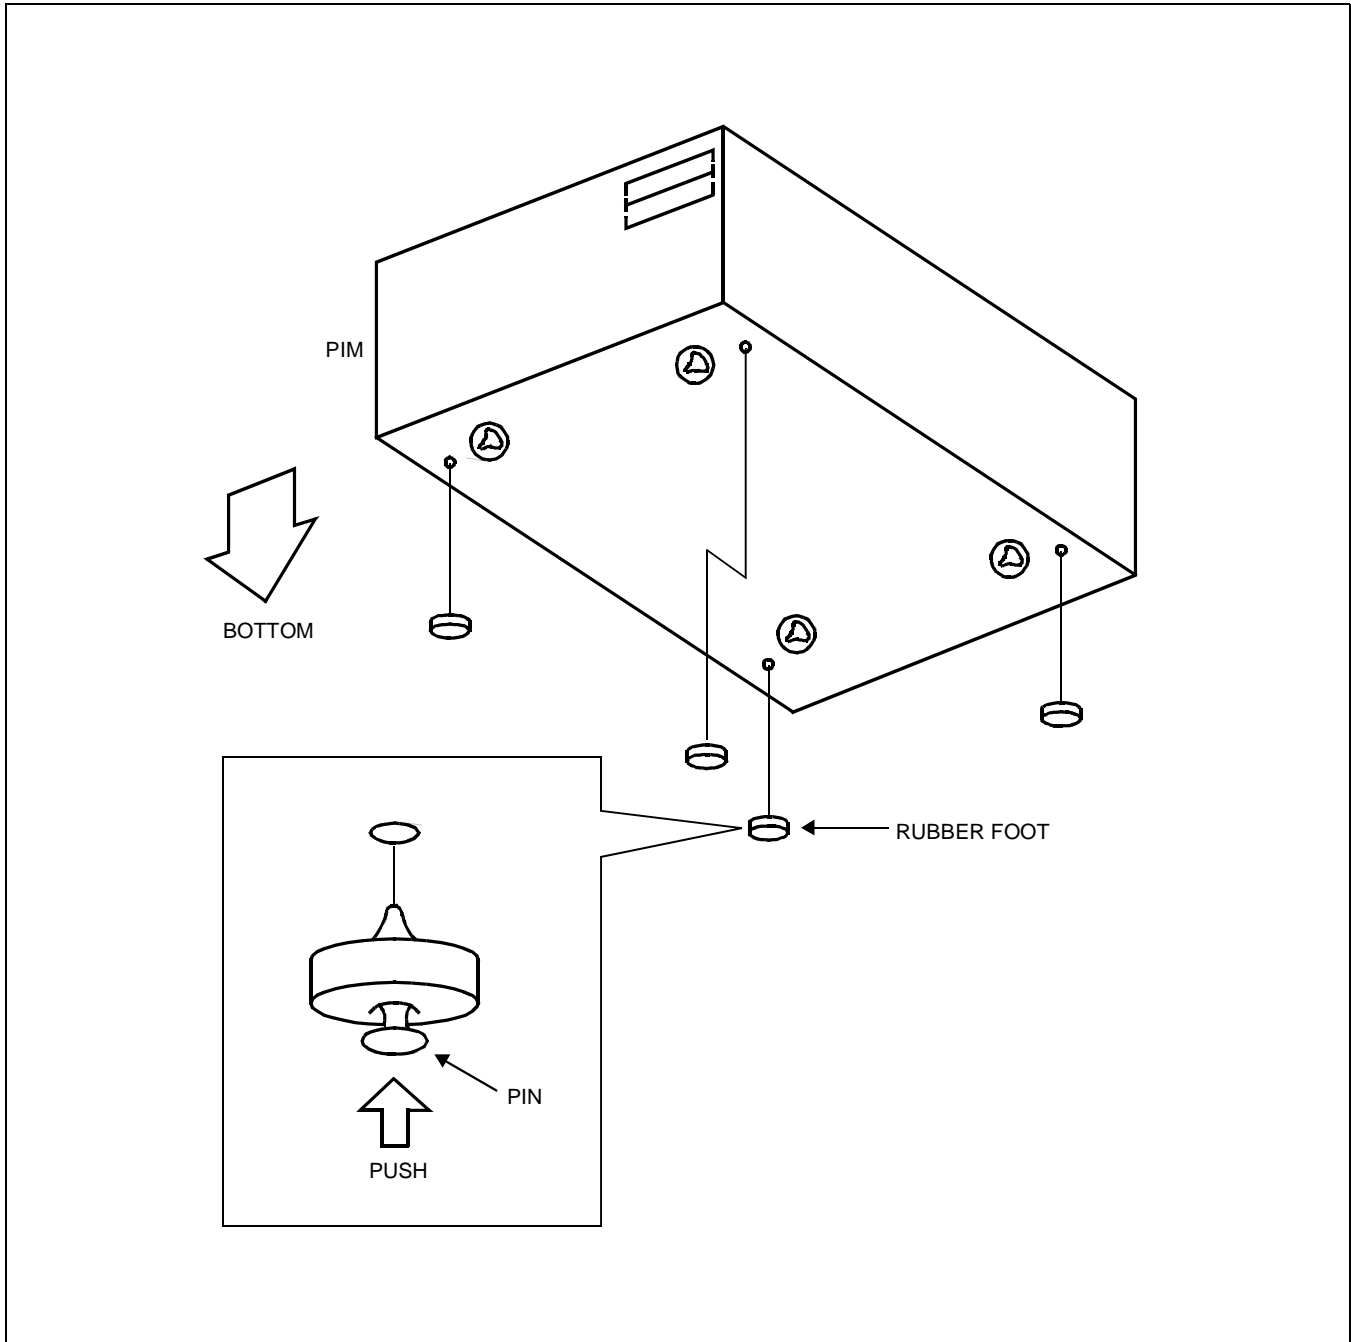

Figure 003-30 Connecting the RUBBER FOOT to the PIM
(2) Connect the RUBBER FEET to the PIM as shown in Figure 003-30.